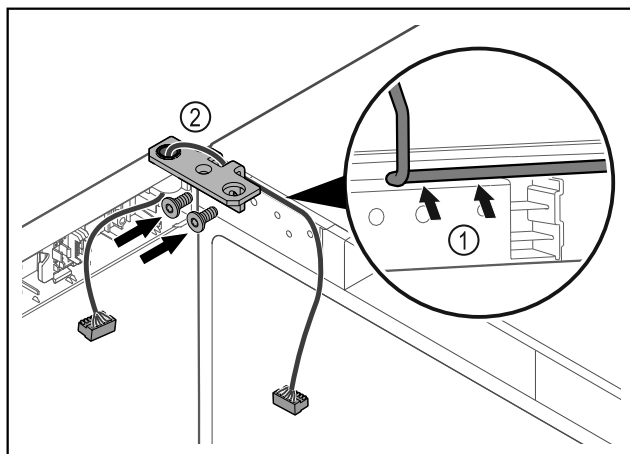

Fig. 37
- Feed the cable through the recess in the hinge and lay it carefully Fig. 37 (1).
- Screw on the hinge Fig. 37 (2).